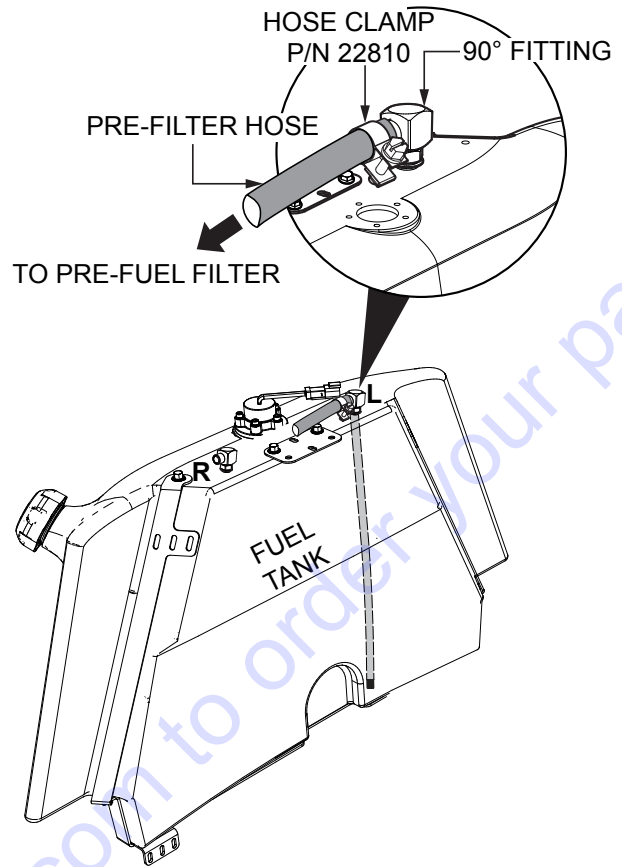

Figure 7. Pre-Filter Hose Reinstallation
3. Place the new hose clamp (P/N 22810) onto the free end of the pre-filter hose. See Figure 7.
4. Connect the free end of the pre-filter hose to the 90° fitting on the **LEFT** side of the fuel tank (Figure 7).
5. Secure the pre-filter hose to the 90° fitting with the hose clamp (P/N 22810). See Figure 7.